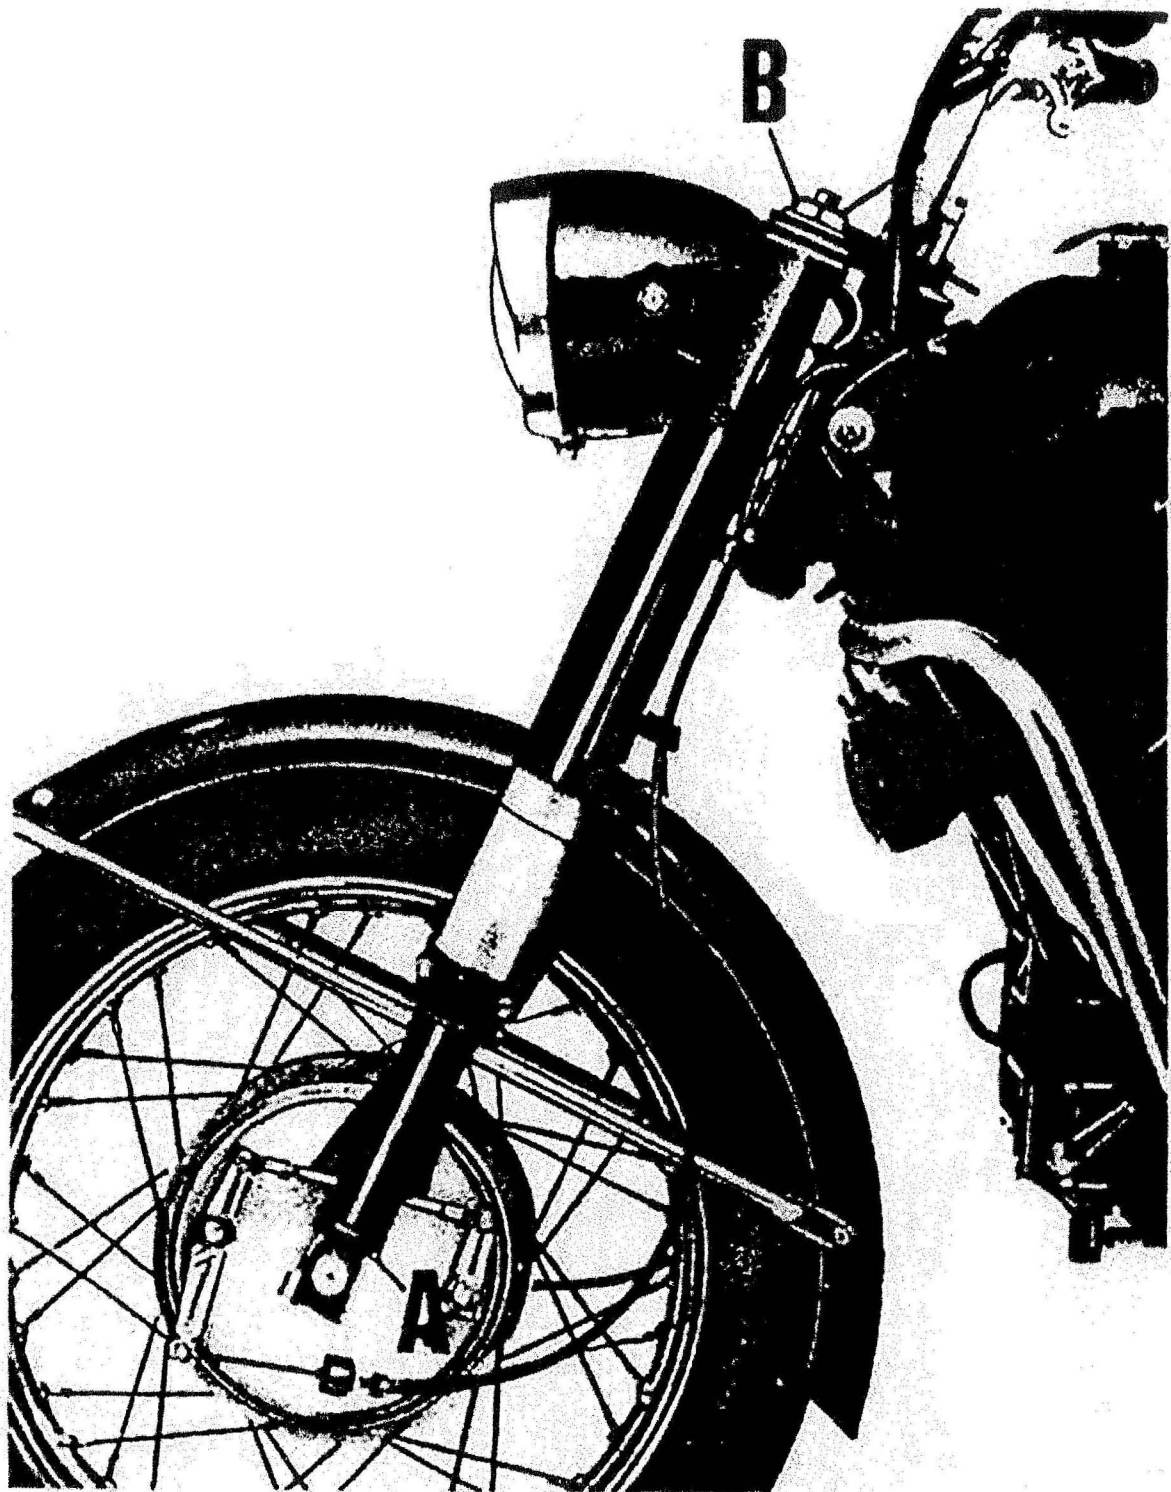

Fig. 13
- Lubrication of the front fork and hydraulic dampers (fig. 13)** Every 20.000 kms (12.000 miles) or earlier if necessary, change the oil in the fork tubes proceeding as follows: